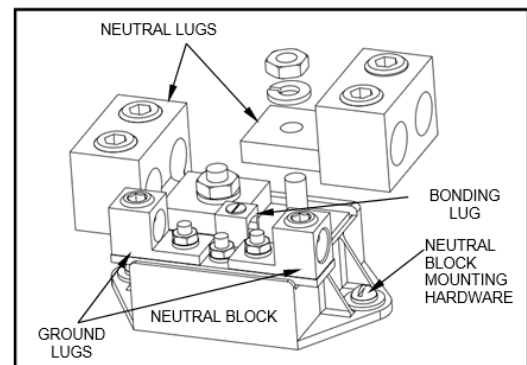

Figure 1 – TNI66C Neutral Kit
This kit is CSA listed for use as an insulated groundable neutral and may be installed in 600Amp type TH3366C and TH3366RC safety switches. Each kit contains the following parts. (See Figures 1):
Step 3: Mount line and load lugs to neutral block as shown in Figure 1 using hardware provided. Torque fasteners to 200-250 in-lbs.